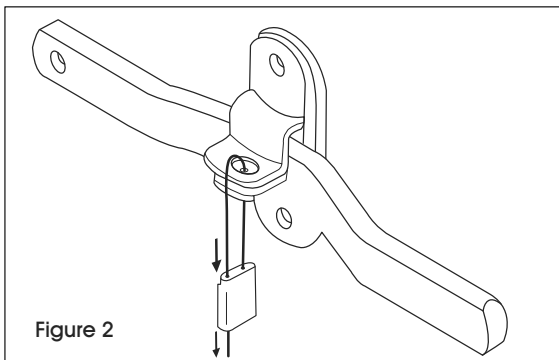

Figure 2
4. While grasping case with one hand, feed long end of cable down through opening in the locking device with other hand until a substantial length of cable protrudes. (See Figure 2)